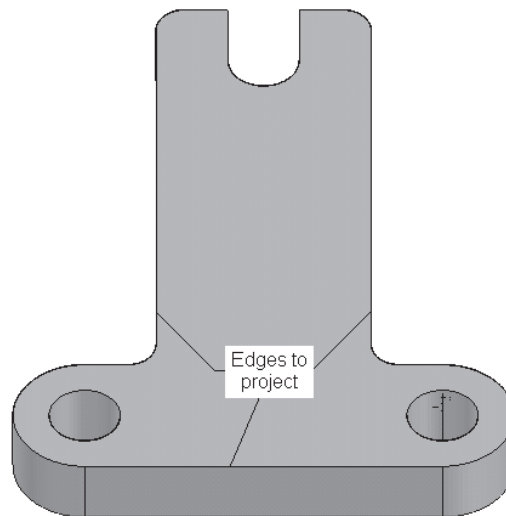

Figure 5-51 Selecting the entities to project
8. Make sure the **Include with offset** and **Include internal face loops** check boxes are cleared in this dialog box. Choose **OK** from this dialog box and then select the edges to project, as shown in Figure 5-51.